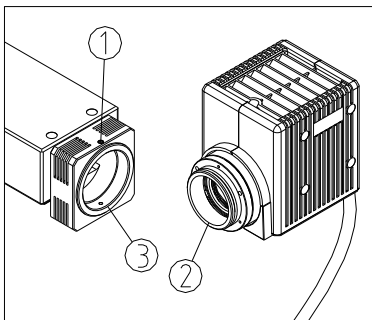
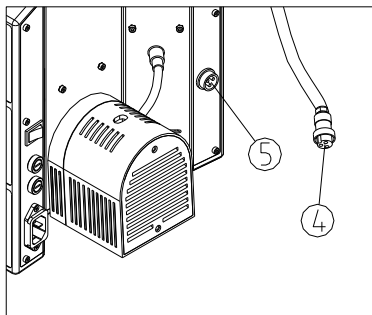

Fig. 8
Fig. 9
- (1) Fully loosen the lock screw ① of the reflected illuminator. (See Fig. 8)
- (2) Push the light source group base ② into the reflected illuminator light source base ③ thoroughly, then lock the lock screw ①.
- (3) Insert the aviation plug ④ of the light source group into the aviation socket ⑤ of the microscope body. (See Fig. 9)